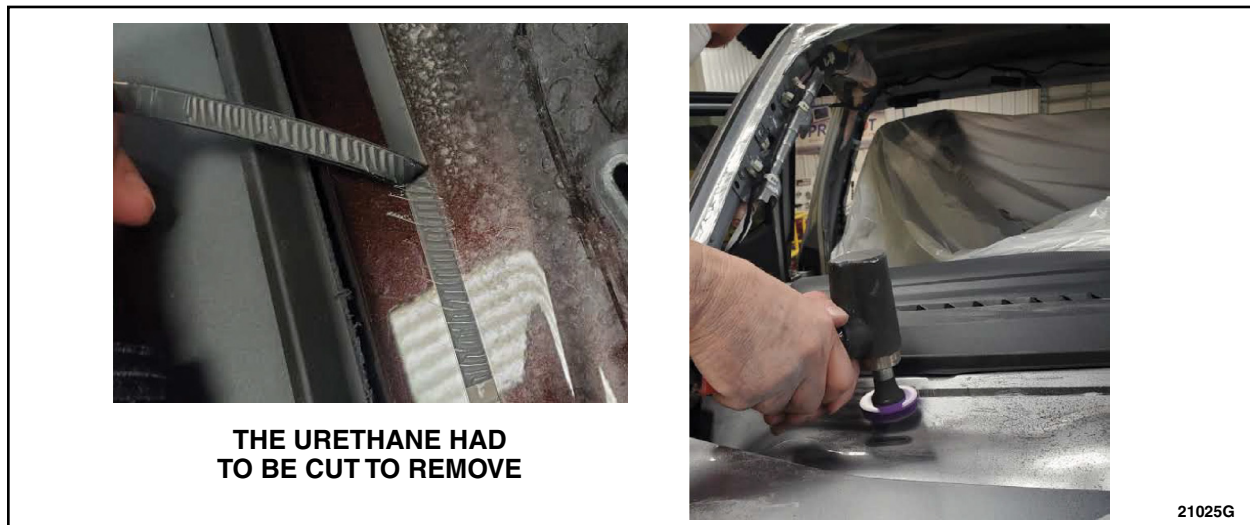

FIGURE 3
6. In areas where the urethane did not peel up cleanly, use a Scotch-Brite 3M Roloc disk to remove all remaining urethane from flange while attempting to minimize abrasion to the painted surface. See Figure 3.